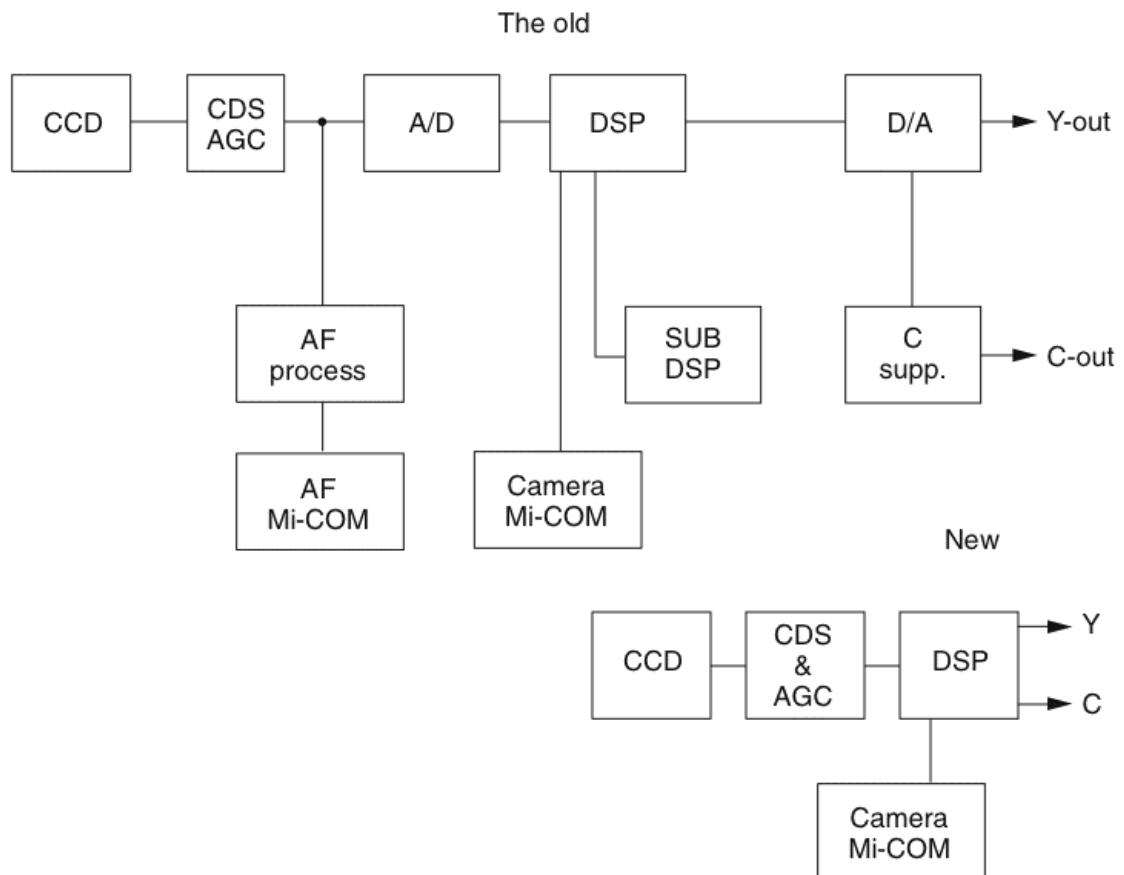

FIGURE 33-19 The digital-processing circuits of older and newer Canon 8-mm camcorders.
A/D, DSP, AF process, AF Mi-Com, camera Mi-Com, sub DSP, C. sup and D/A converter with a luminous (Y) and chroma (C) output connections (see Fig. 33-19).